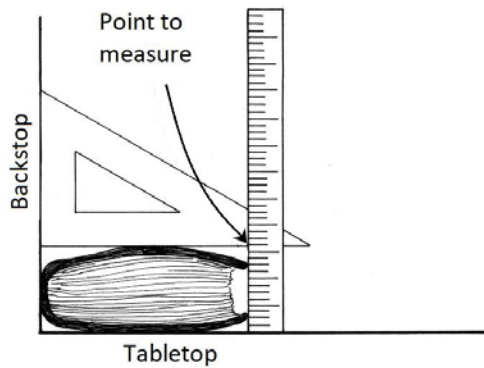

FIGURE 7
Thickness (T) is measured differently. First, lay the book on the tabletop. Stand a ruler on end vertically beside it, and hold a triangle against the backstop so that its vertical edge is flat against the backstop and its horizontal edge is parallel to the tabletop. Lower the triangle—maintaining its contact with the backstop—until the horizontal edge of the triangle encounters the thickest part of the book. The measurement where the horizontal edge of the triangle crosses the ruler (Figure 7) is the thickness. Make measurements at several points and use the thickest.